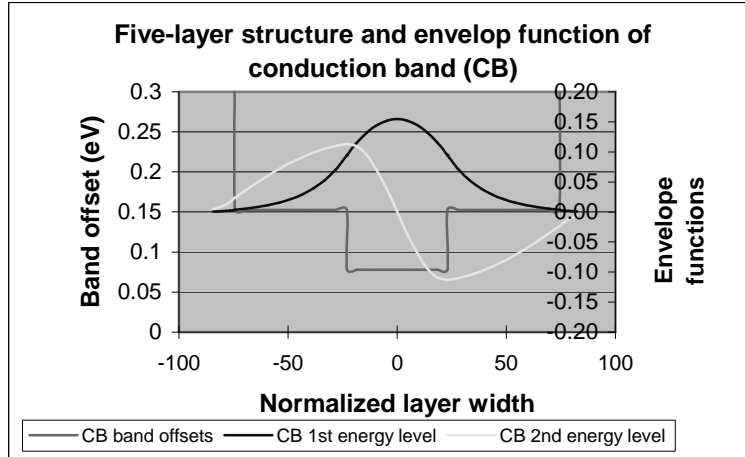
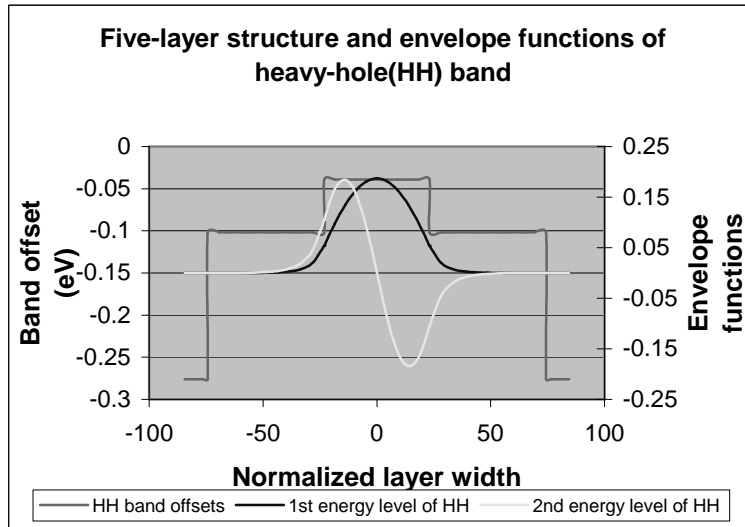
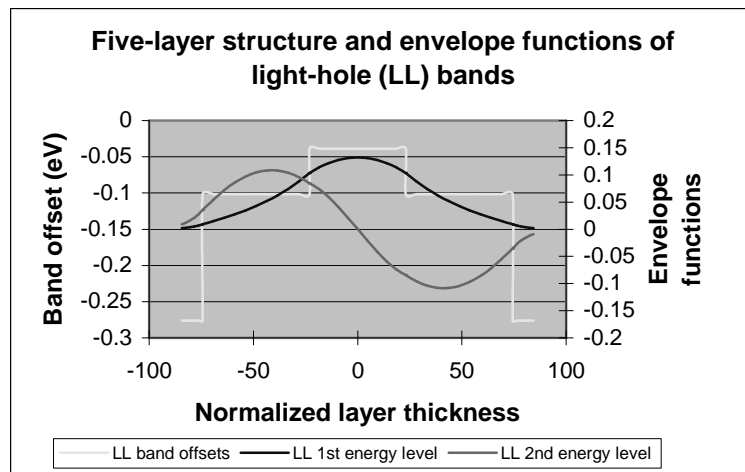

Fig. C.6.2. Wave envelope functions for energy levels in conduction band
Fig. C.6.3. Wave envelope functions for heavy hole energy levels
Fig. C.6.4. Wave envelope functions for light hole energy levels
b) The main output file from this part of GAIN program is energy.dat, containing all the energy levels as shown in Table C.6.5. After the energy eigen values are calculated, the GAIN program asks the user whether he would like to check the wave envelope function or not. We suggest that the user check the wave envelope functions of the first and second energy levels for conduction, heavy hole and light-hole bands. The plots of the envelope functions are shown in Fig. C.6.2, Fig. C.6.3, Fig C.6.4.